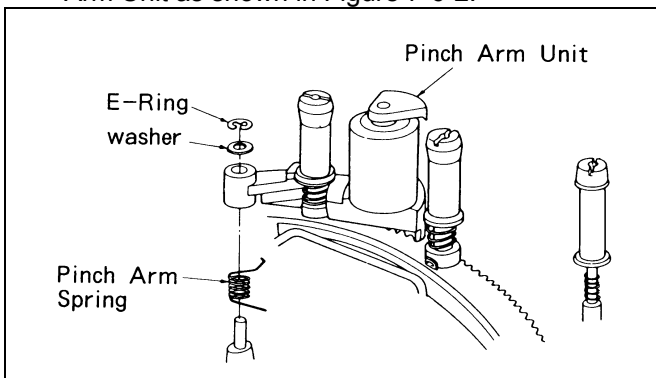

Figure 7-6-2 Replacement of Pinch Arm Unit
2. Remove E-Ring and Washer and pull out Pinch Arm Unit as shown in Figure 7-6-2.